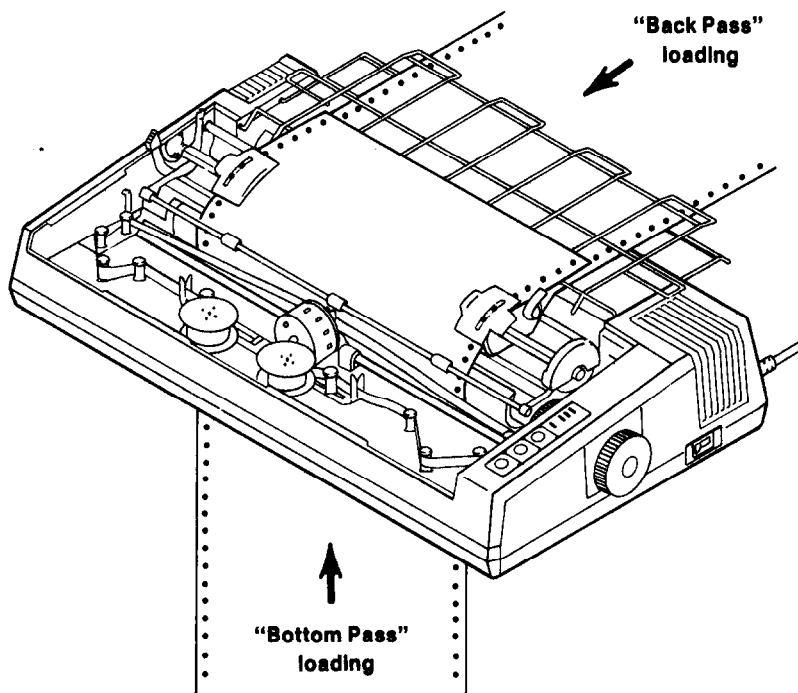

Figure 2-13. Whether you use the "bottom pass" (shown here) or the "back pass" option (also shown), you start and end with the same steps.
*Figure 2-12. The Gemini-15X can be loaded with sprocket paper from the back (as shown here) or from a stack of paper beneath the printer (depicted in Figure 2-13).*